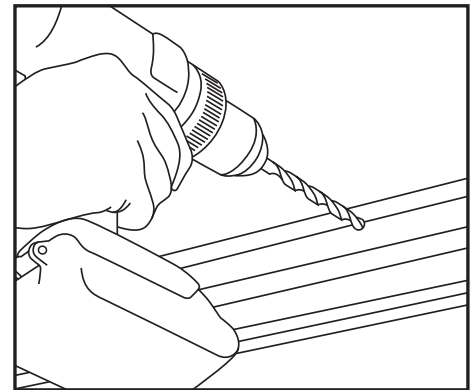

Fig.4
3. Drill through the roller tube using a 7/16" bit **(Fig.4)**.